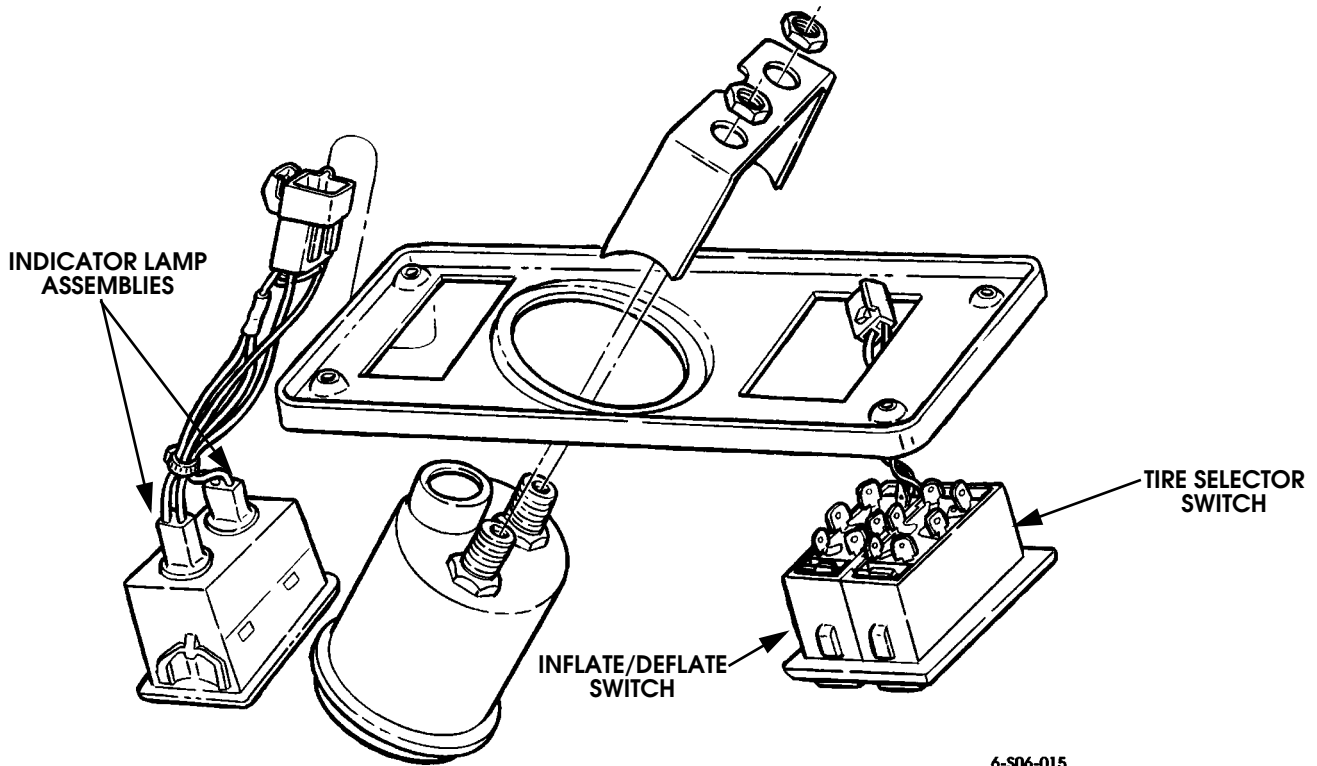

Figure 6-58: Inflate/Deflate Switch, Tire Selector Switch and Indicator Lights
1. Install inflate/deflate and tire selector switches in housing on CTIS instrument cluster (Figure 6-58).